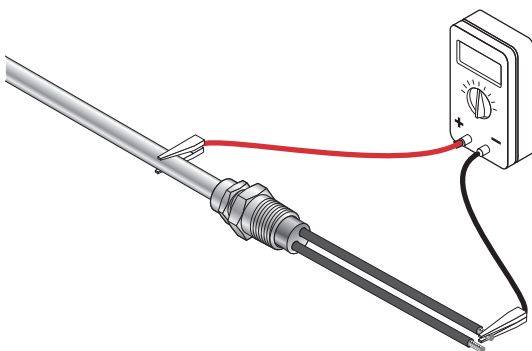

Figure 56: Check insulation resistance
Check the insulation resistance (IR) of the cable at this point using a 1000 V DC Megohmmeter (Figure 56). Details on testing can be found in Appendix B. This test checks for the presence of moisture in the magnesium oxide insulation. A value greater than 20 M Ω should be attained. If the IR is lower, remove the moisture from the cable by following the **drying out** procedure in Appendix D. Repeat IR test.